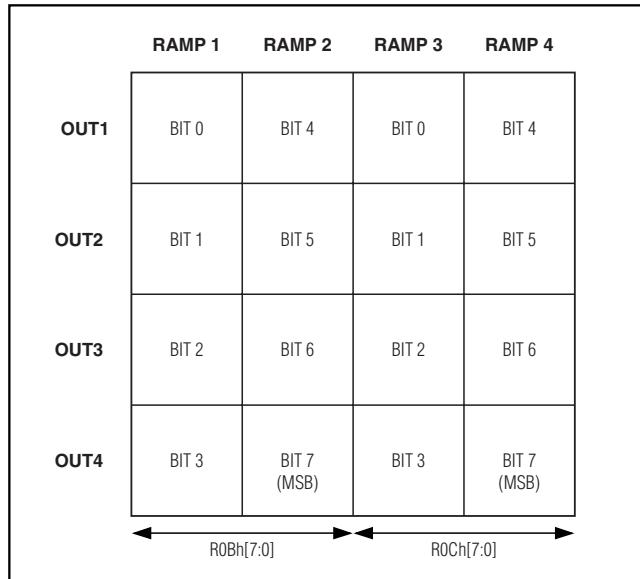

Figure 6. Mapping Tracking and Sequencing Modes
intended to provide only tracking for the four supplies (only one ramp is generated). To control one particular channel, insert a “1” in any of the four possible positions (one row for each channel contains 4 bits) and the circuit will generate the proper signals (see Figure 6).
To configure tracking and sequencing modes, insert "1" and "0" into the 0Bh and 0Ch registers (see Table 2). Figure 6 shows how to map for tracking and sequencing modes. Each OUT\_ output can follow one of the four possible ramps in tracking or sequencing mode (16 bits are available) and one bit set to "1," means that the channel of the interested row is powered up/down by the corresponding ramp (see Figure 6).
- 1) If the depicted table (in Figure 6) is made by all "1s," the part simply generates a single ramp (all channels in tracking mode since the first column is full of "1s,") and it ignores the remaining values of the other 12 bits.